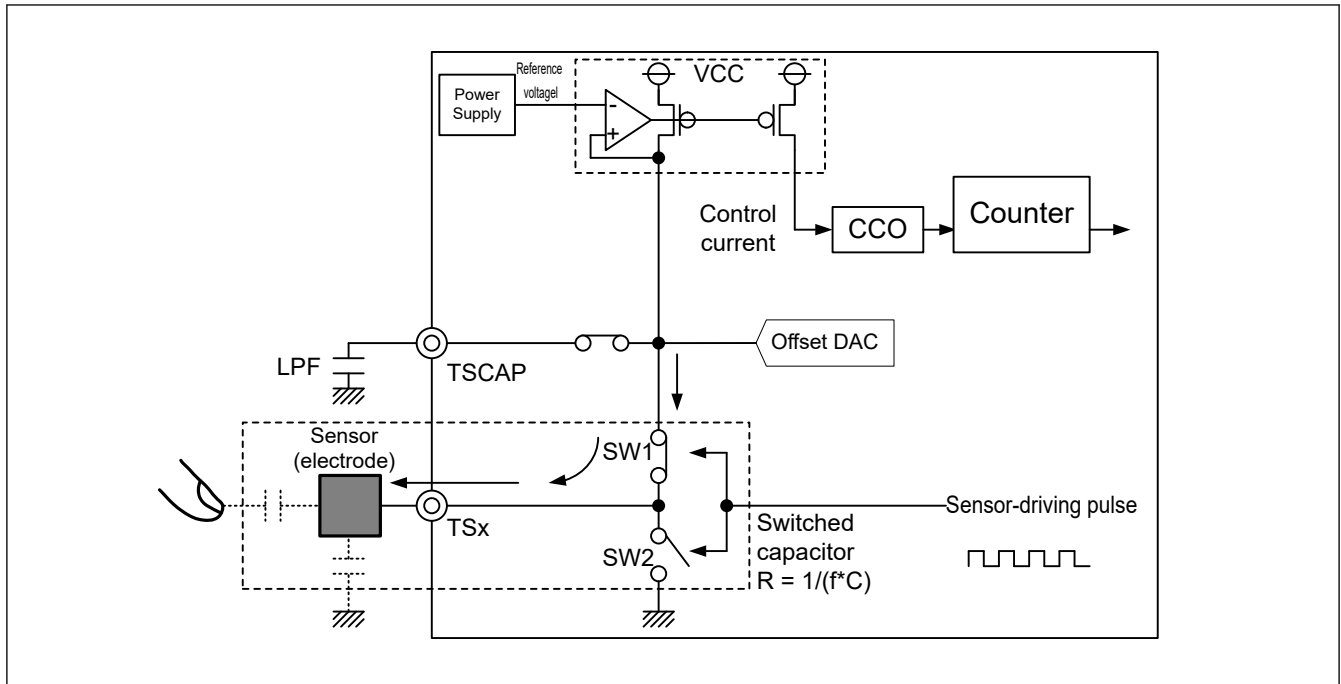
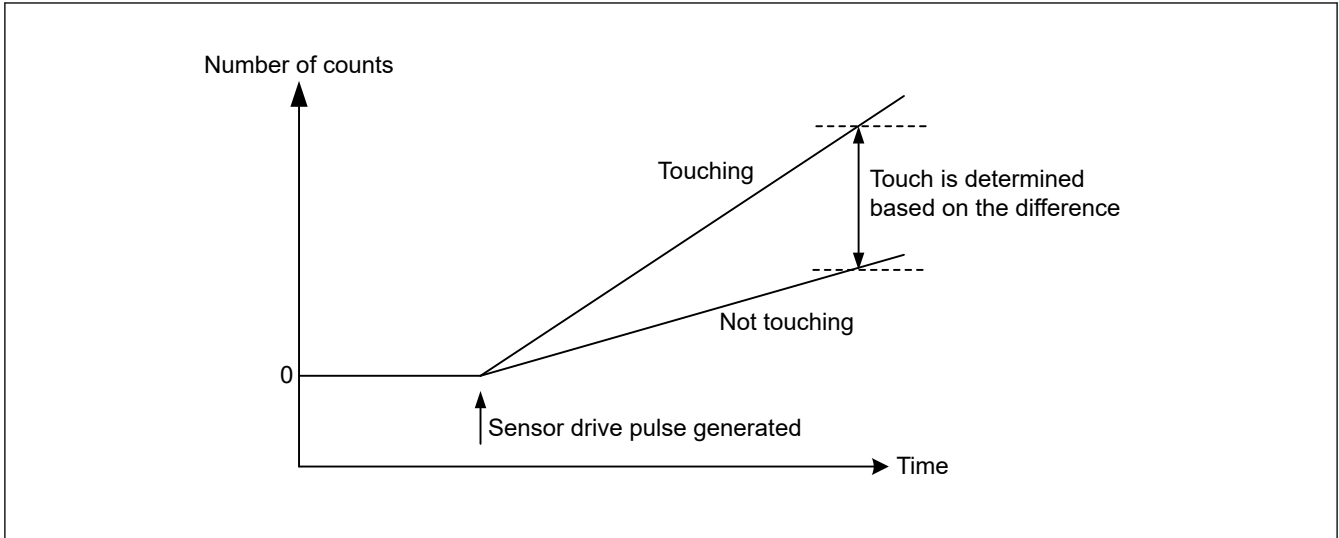

Figure 34.5 Self-capacitance charging operation
Figure 34.7 Change in measured value when finger is touching and not touching
Figure 34.5 to Figure 34.7 describe the electrostatic capacitance measurement operation principles of the CTSU current frequency conversion. The operation is as follows:
1. The electrostatic capacitance of the electrode is charged by turning SW1 on and SW2 off (Figure 34.5).
The current flows to a switched capacitor occur by switching the charging (step 1.) and discharging (step 2.) at early timing. At this time, if a human body comes into close proximity, the electrostatic capacitance changes, which changes the flowing current. A clock is generated by supplying the control current, which is proportional to the amount of current flowing to the switched capacitor, to the CCO from the TSCAP power supply (LDO). The software uses the values read from the counter to determine contact with a finger as shown in Figure 34.7.